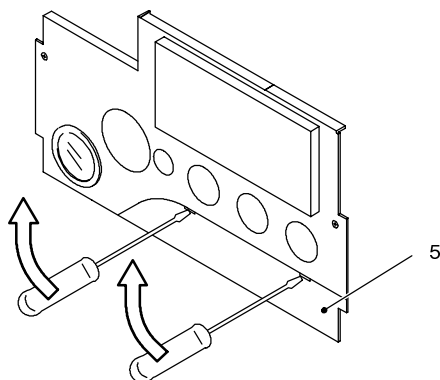

fig. 7
- 1 Place a small screwdriver with a blade in the two slots indicated in fig. 7;